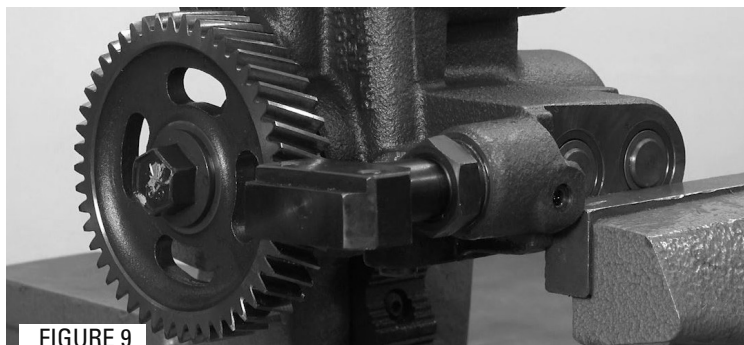

FIGURE 9
- 11** The XDP STC HPOP fitting update is now properly installed and can be removed from vise. Prior to installing high-pressure oil pump back into vehicle, match the new O-rings in the provided kit with the O-rings removed. Several O-rings are similar in size but will not seal if used in the wrong location. (Figure 9)